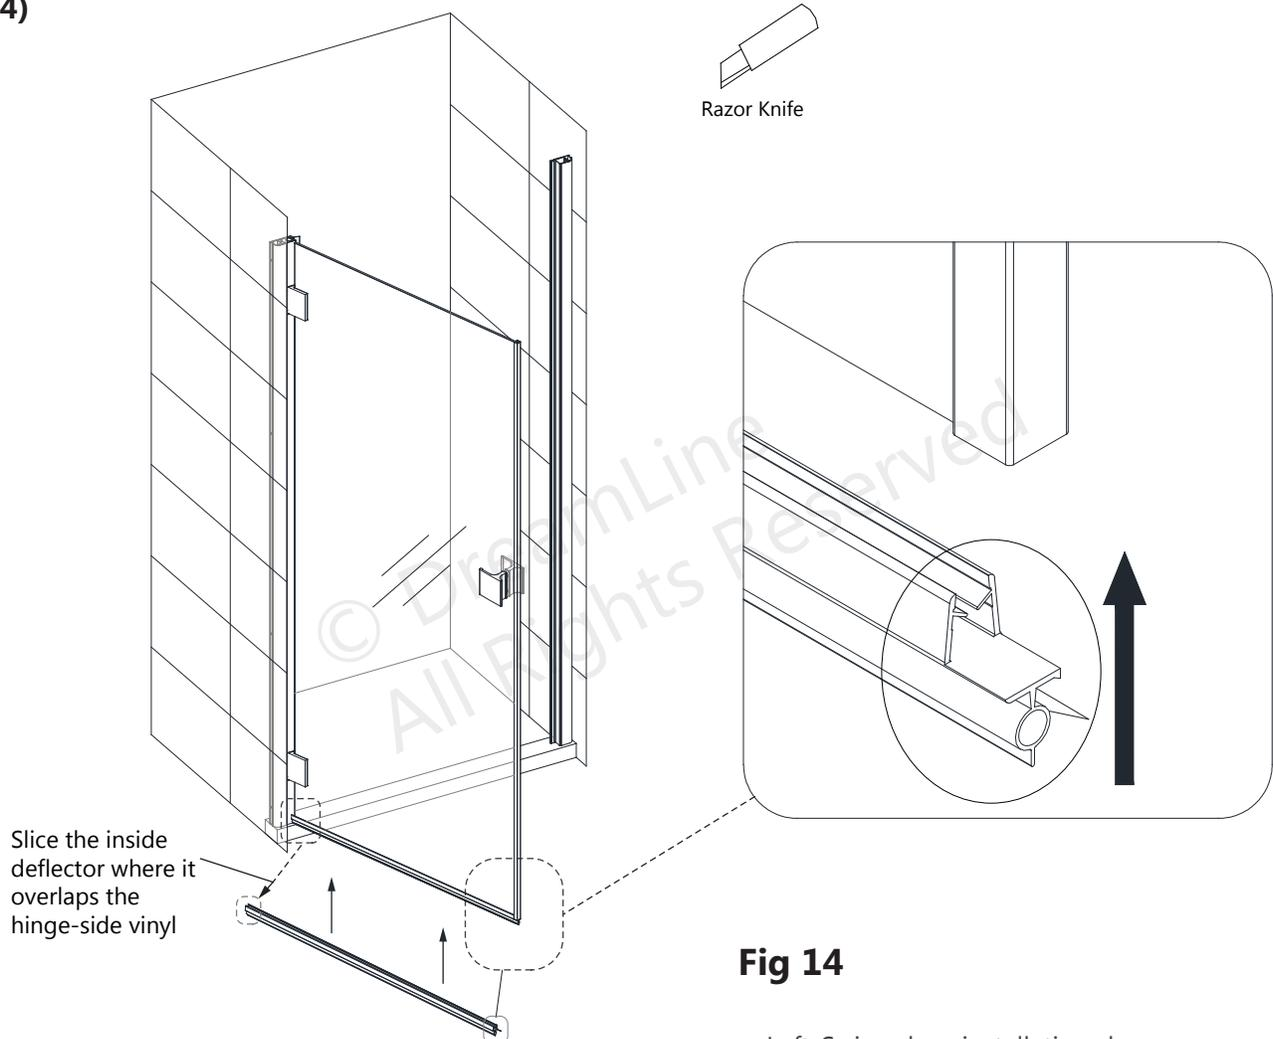

Fig 14
14. Notch the strike end of the **Bottom Strip (#12)** with a razor knife to fit around the **Strike Rail (#07)** on the edge of the **Door Glass (#06)**. Install the **Bottom Strip (#12)** onto the bottom of the **Door Glass (#06)**. Also, slice the inside deflector where it overlaps the hinge-side vinyl. **(Fig 14)**